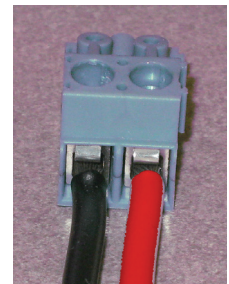

Figure 8 Complete Output Wiring
3. Insert it fully into the pluggable terminal block. If stripped and inserted properly, the insulation should be butted up against the body of the terminal block and look like Figure 8, with no stray wires protruding from any terminal.
7. Verify that both wires are secure and properly inserted into the terminal block. They should look something like what is illustrated in Figure 8 with no wires protruding from the terminals.